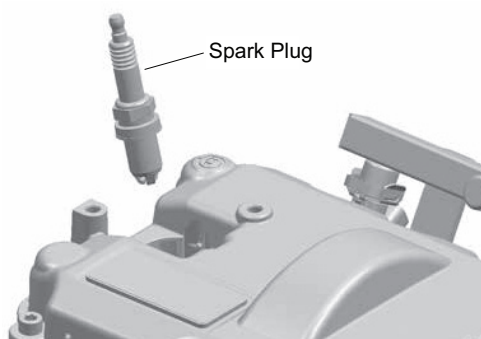

Fig. 13 Spark Plug
5. Remove the spark plugs with a spark plug socket (Ref. Fig. 13).